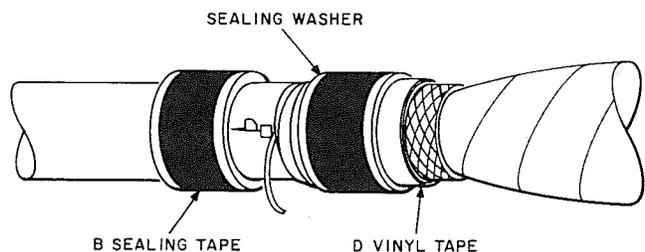

Fig. 15—Sealing Washers in Place
3.23 Position the outer washers on the outer seal and the inner washers on inner seal, butted against the B sealing tape, as shown in Fig. 15. Rotate the washers at the ends of each seal so that the slits are 180 degrees apart and coincide with the flange level of the splice case. Then wrap a collar of D vinyl tape about 1/2 inch wide around the inner sheath, closing the opening between the sheath and the sealing washer.